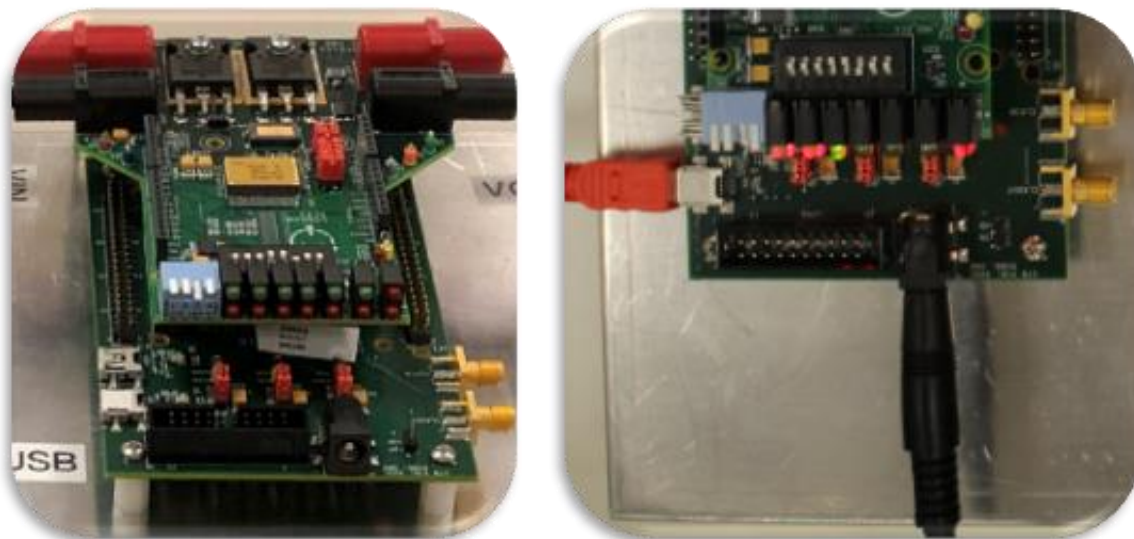

Figure 8: Installing SPSC-EVB-R0 onto UT32M0R500-EVB Host
Step 4) Install the SPSC-EVB-R0 onto the ARDUINO shield connectors located on the target host controller board. Recommended host controller board is Cobham’s UT32M0R500-EVB (or STM L053 Nucleo – Cobham API support pending). After installing the SPSC-EVB-R0 onto the host controller board, you are ready to apply power to the host controller and connect its USB Mini-B port to the PC USB Type-A COM port as shown in Figure 8. Once power is applied to the host controller board through its AC/DC power adapter, you should see LED’s illuminate to reflect the present configuration and status of the SPSC-EVB-R0.